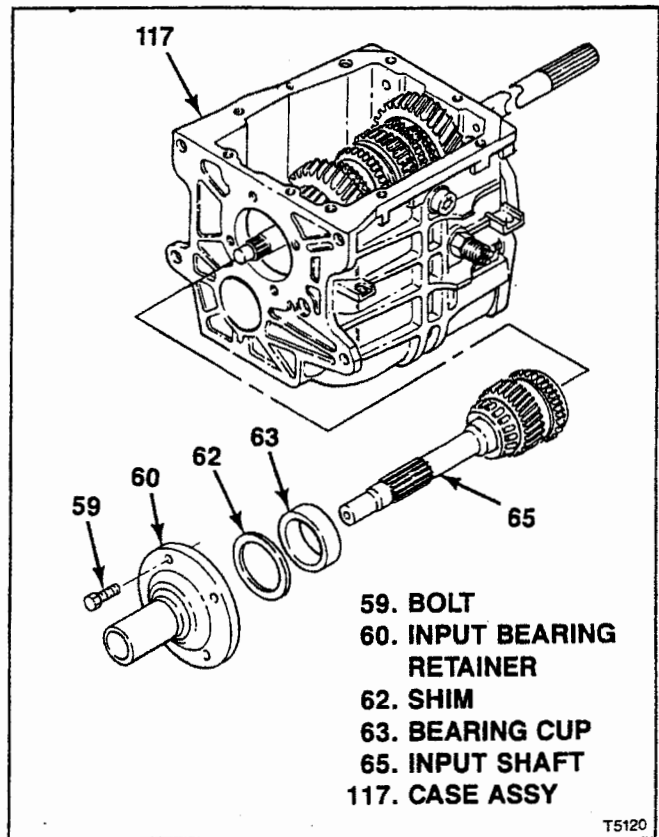
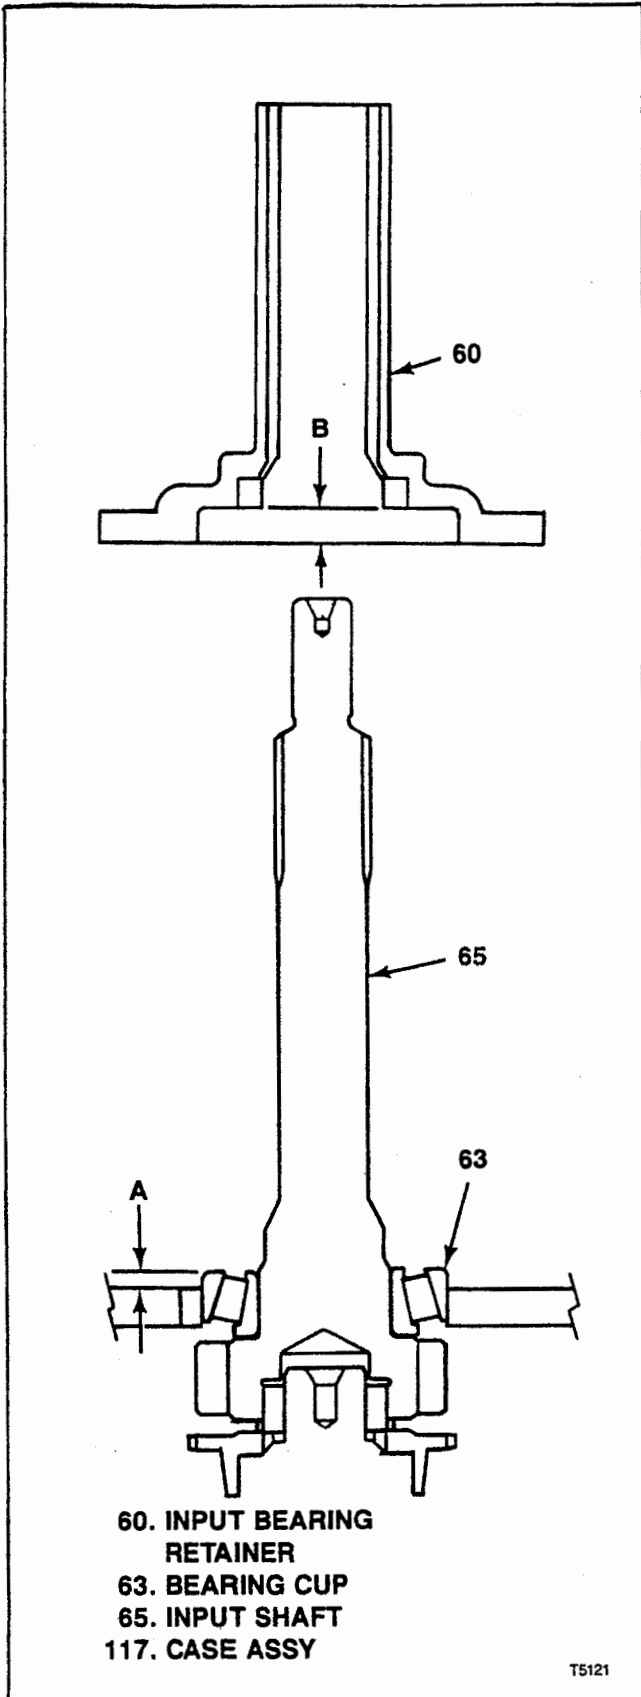

Figure 6-21. T5 WC Bearing Preload Adjustment
Figure 6-22. T5 WC Bearing Preload Measurements
6-19. ADJUSTMENT OF T5 WC INPUT/OUTPUT SHAFT BEARING PRELOAD. With both input bearing retainer and extension or adapter installed as described in preceding paragraphs, adjust input/output shaft bearing preload as follows (see figure 6-21 and 6-22):
b. Remove bolts (59, figure 6-21) attaching input bearing retainer (60) and remove bearing retainer.
c. Using hand pressure, press down firmly on input shaft (65) and bearing cup (63) to ensure that power train parts in transmission are fully seated.
d. Using suitable depth micrometer measure and record the following (see figure 6-22):
1. Dimension A, distance from top of bearing cup (63) to mounting face on transmission case (117) for input bearing retainer (60).
2. Dimension B, distance from mounting face on input bearing retainer (60) to bearing cup contact surface.